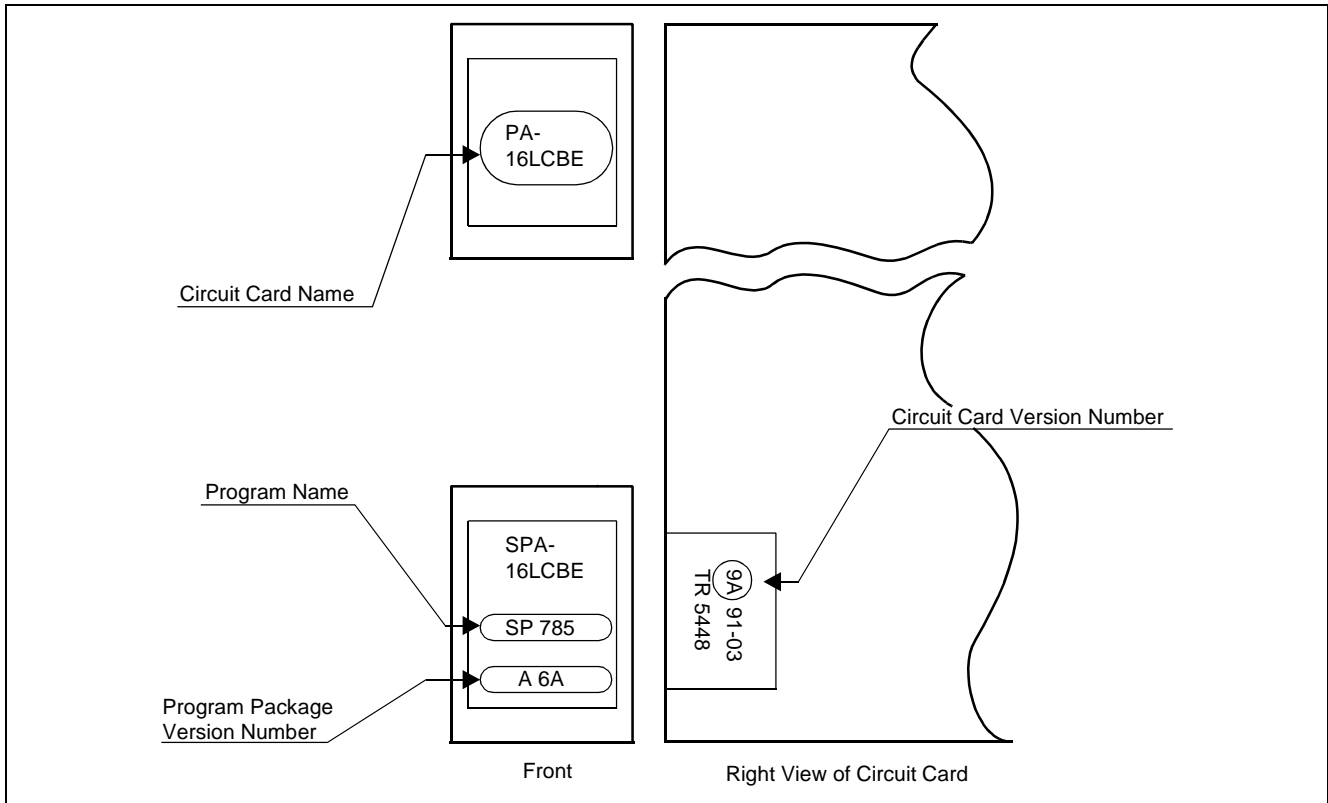

Figure 2-35 Circuit Card Version Number, Program Name, and Program Package Version Number
- (2) Circuit Card Version Number, Program Name, and Program Package Version Number of the circuit card. Figure 2-35 shows an example of PA-16LCBE circuit card.